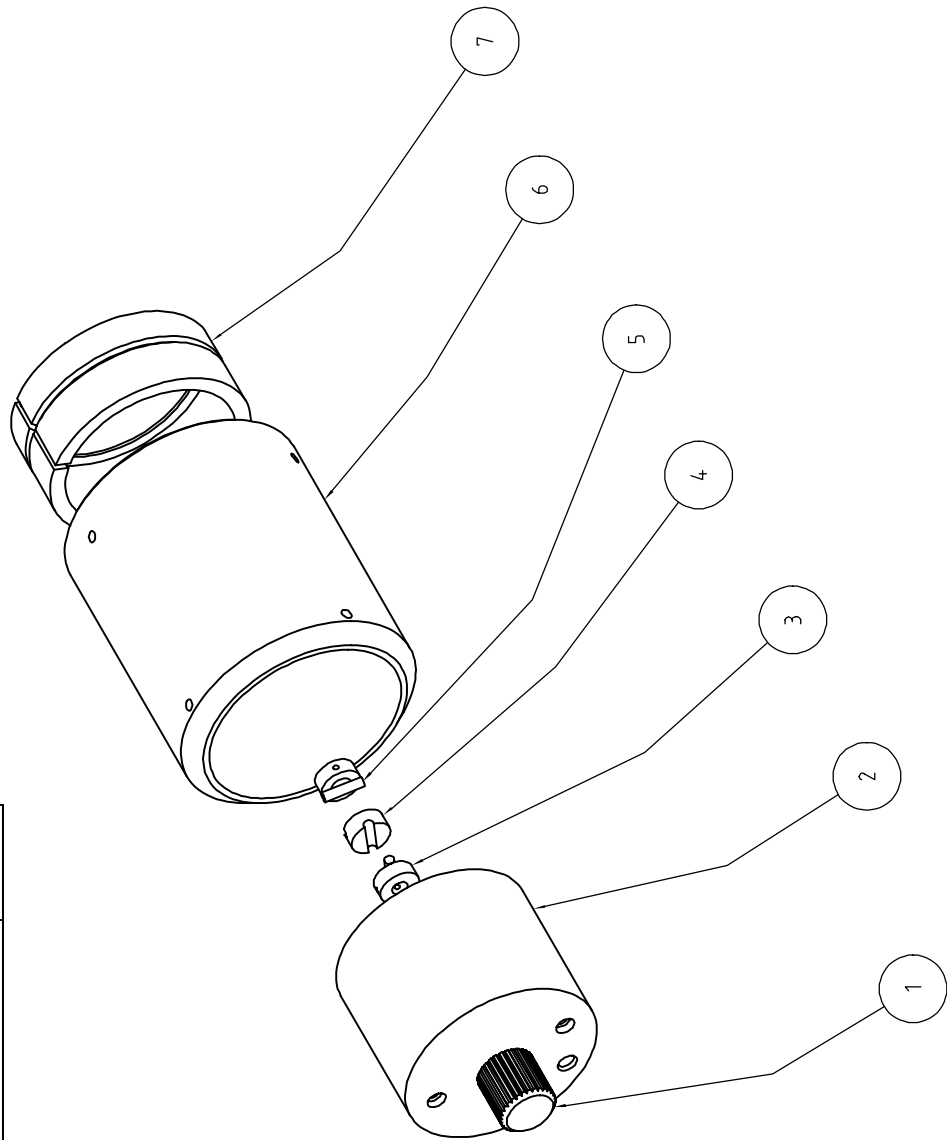

Figure 2
- 4 Adjust the fine focus knob on the opposite side of the microscope such that the white nylon coupling will align properly with the motor coupling. Slide the focus motor housing into the outer housing until the focus motor is coupled with the fine focus shaft. To verify alignment, turn the fine focus knob and ensure the knob on the end of the motor shaft rotates accordingly. Tighten the two motor clamping setscrews with a 2 mm hex wrench. (Use Figure 2 for reference)